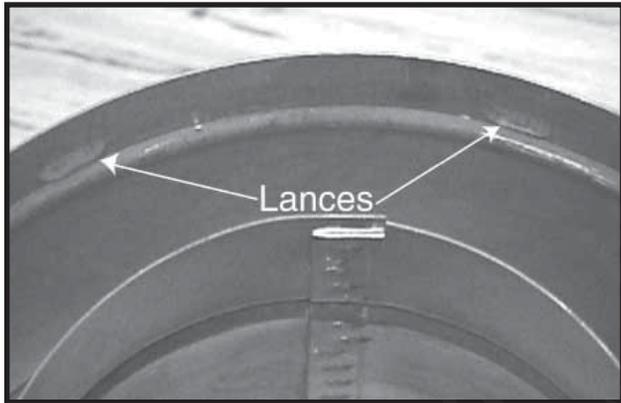

Figure 29.
- Slide the male end of the inner flue of the pipe section over the inner collar on the heater. At the same time, slide the outer flue over the outer collar on the heater. Push the flue section into the appliance collar until all the lances (see Figure 29) have snapped in place. Tug slightly on the flue to confirm that it has completely locked into place.